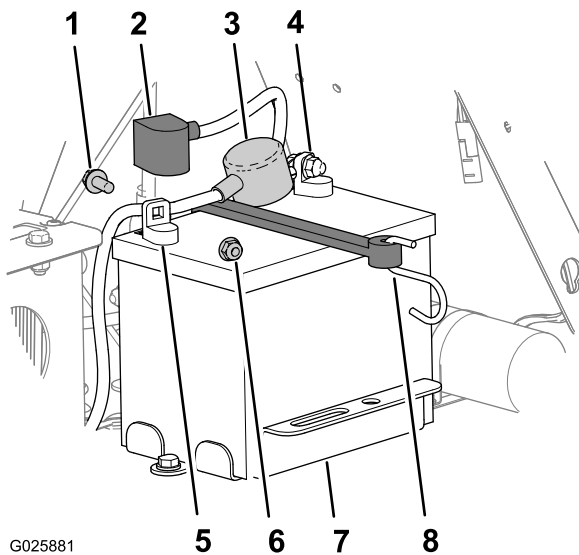

Figure 40
3. At the battery, lift the black terminal cover on the negative cable (Figure 40).
4. Disconnect the negative battery cable from the negative (-) battery terminal, and remove the cable from the battery (Figure 40).
5. Slide the red terminal cover off the positive battery terminal (Figure 40).
6. Disconnect the positive (red) battery cable, and remove the cable from the battery (Figure 40).
7. Remove the hook of the battery strap from the battery tray (Figure 40), and remove the battery.
1. Place the battery onto the machine (Figure 40).
3. Install the positive (red) battery cable to positive (+) battery terminal with a flanged bolt and flanged nut (Figure 40).
5. Install the negative battery cable and the ground wire to the negative (-) battery terminal with a flanged bolt and flanged nut (Figure 40).